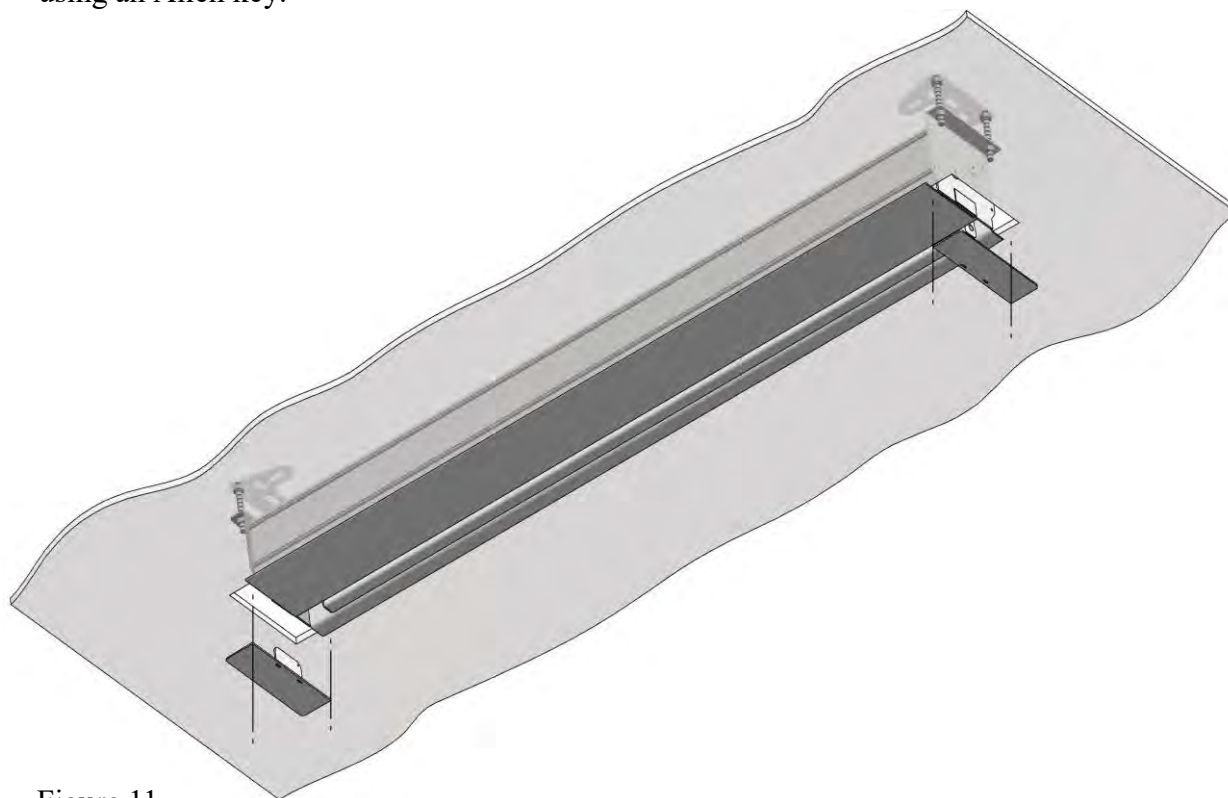

Figure 11
13. After final inspection of the entire installation, mount the side blends (magnet fitment on both sides of the housing) (**Figure 11**). In the case of side-tensioned screens, unwind the entire screen surface. Need being, adjust the tensioning with the control screws on both sides of the lower bar) using an Allen key.